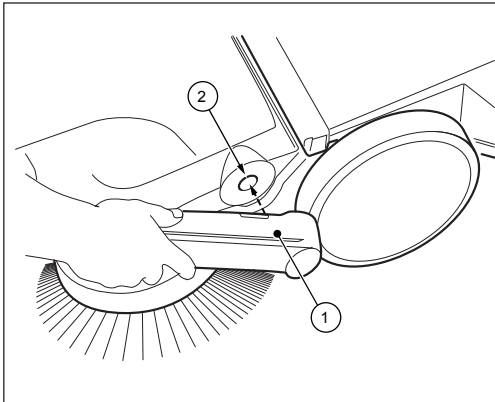

Fig. 7: Handle fitting assembly (SWP 475)
1. Position the handle fittings (1) as shown in Figure 7.
2. Insert the handle fittings in this position into the intended receptacle (2) of the sweeper. It may be necessary to slightly hit the handle fittings in this step.